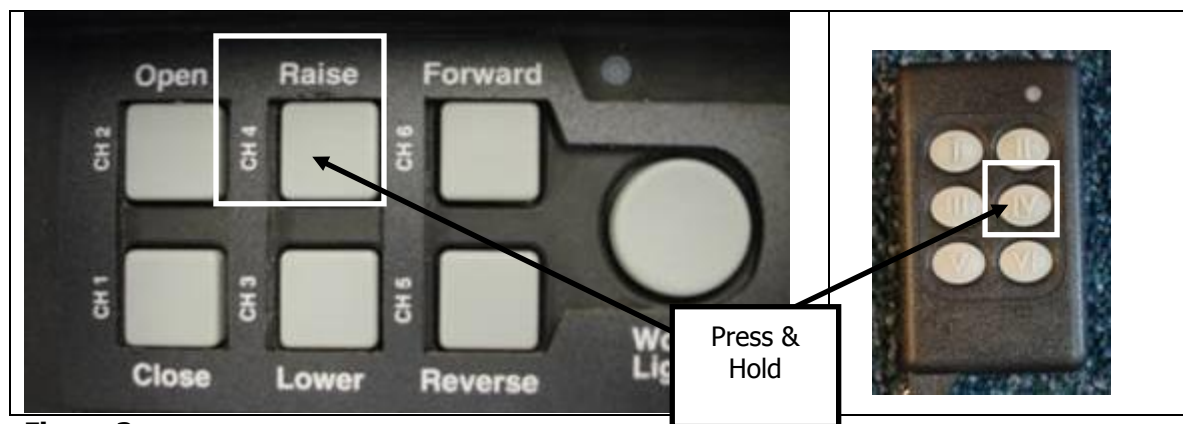

Figure 3
- 3) If you have an adjustable tower raise tower as high as possible to keep tarp from dragging on the load in the container. To raise tower press & hold button 4 on the control box or the key fob (see Fig. 3). On non remote control systems there will be a manual valve to operate you tower.